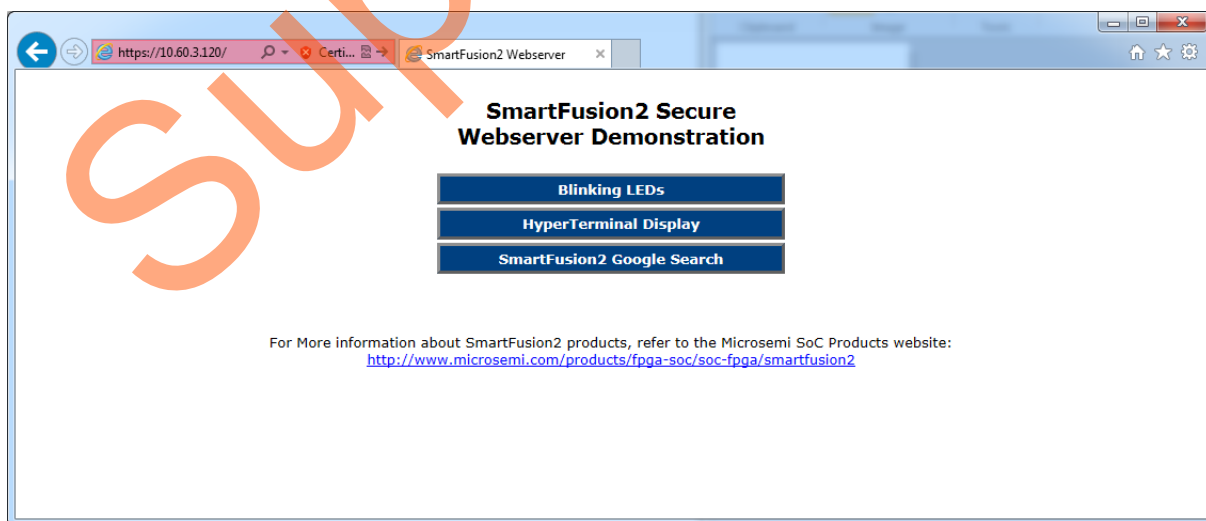

Figure 19 • Main Menu of Secure Webserver in Internet Explorer
2. Click **Continue to this website (not recommended)** to start secure communication with the Webserver. The Microsoft Internet Explorer displays the main menu of the Secure Webserver as shown in Figure 19.